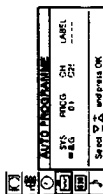

Fig. 4
- 2 Select "Auto Programme" with $\Delta+$ or $\nabla-$ and press OK. The AUTO PROGRAMME menu appears. (See Fig. 4.)